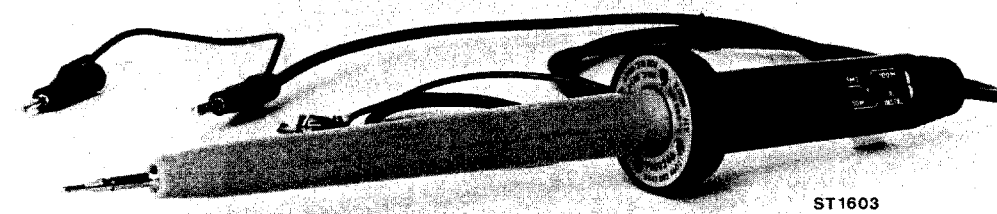

Fig. 4. HT-probe PM 9246
3.2.2. EHT probe type PM 9246 (Fig. 4.)